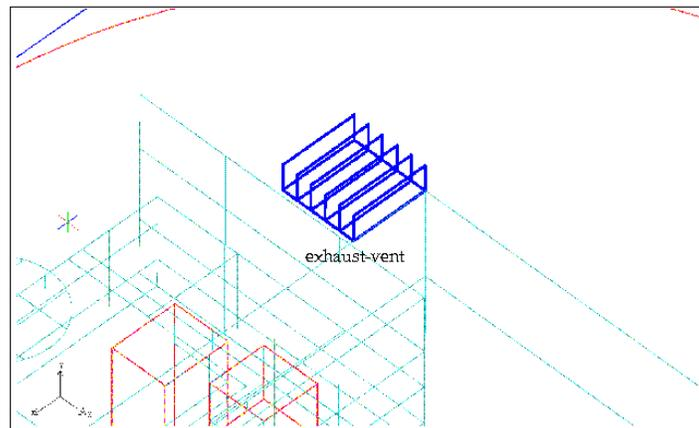

Figure 4.8: Close-Up View of the Vent Object
- (a) Use the right mouse button to zoom into the CAD geometry representing the vent and the middle button to translate the view, as shown in Figure 4.8.
- ii. Using the left mouse button, click on the rectangle that comprises the exhaust vent (shown in Figure 4.8) in the graphics window.